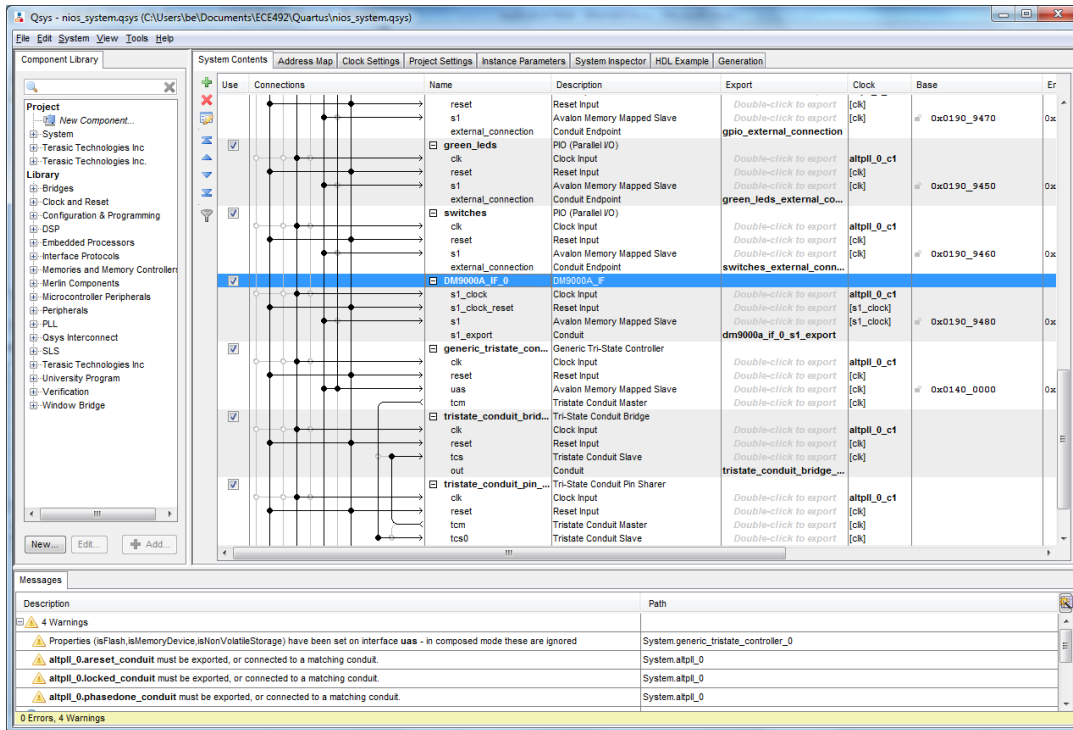

Figure 1 Qsys System
7. Connect the Component as shown in Figure 1 below